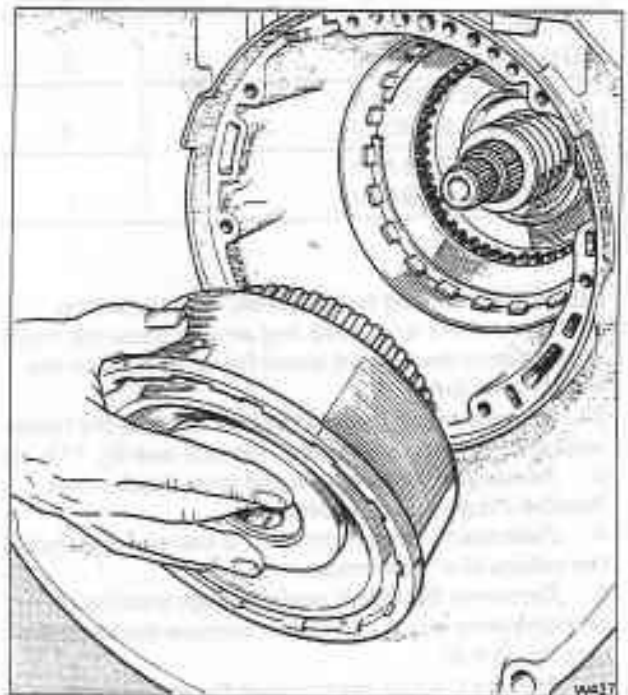

Fig. T19-2 Removing the direct clutch and intermediate sprag assembly
5. Withdraw the direct clutch and intermediate sprag assembly (see fig. T19-2). The sun gear shaft may come out with the direct clutch assembly.